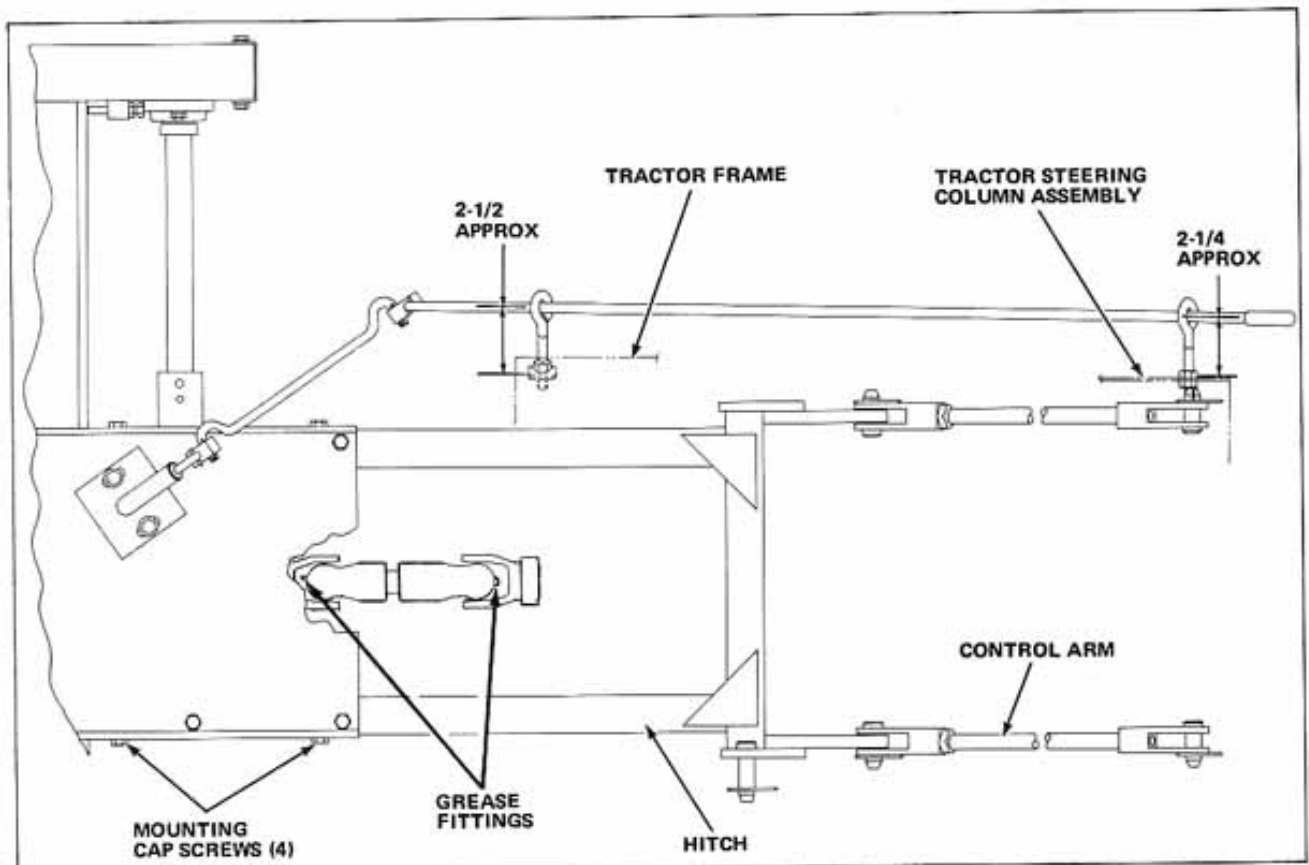
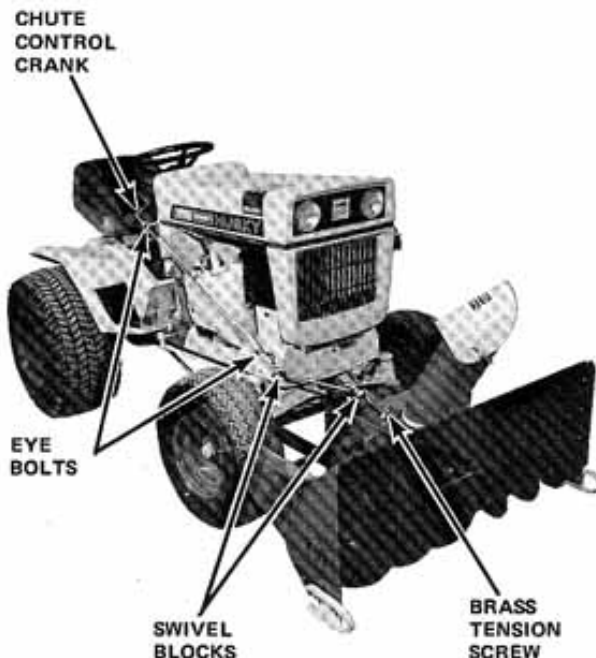

Figure 5
Figure 7
1. After removing the snow caster from its carton, mount the hitch as shown in Figure 5 using four 3/8-16 x 2-1/4" hex head cap screws, lock washers and hex nuts.
To mount chute control crank the two eye bolts must be installed to the Right side of the tractor as shown in Figures 5 and 7. Thread the 3/8-16 hex nut onto each eye bolt. Install the lower eye bolt into the tapped hole in the front of the Right Hand tractor frame member. Install the upper eye bolt into the hole just to the rear of the hood in the Right side of the rear panel, secure with 3/8-16 hex nut.
SEE FIGURE 5 FOR CORRECT MOUNTING OF EYE BOLTS. THEN ATTACH THE CRANK HANDLE ASSEMBLY TO THE SWIVEL BLOCKS AS SHOWN IN FIGURE 7 AND INSERT COTTER KEYS.
The brass tension screw shown in Figure 7 is set to act as a drag on the shaft to prevent the duct assembly from turning in operation due to the force of the snow. As adjustment becomes necessary, tighten the screw until a dragging action is noticed when rotating the discharge chute.